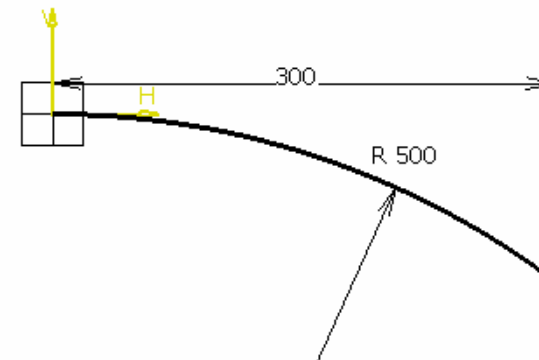

Fig.1
- Draw an **arc** (R500) with one end (0,0) as shown in Fig.1